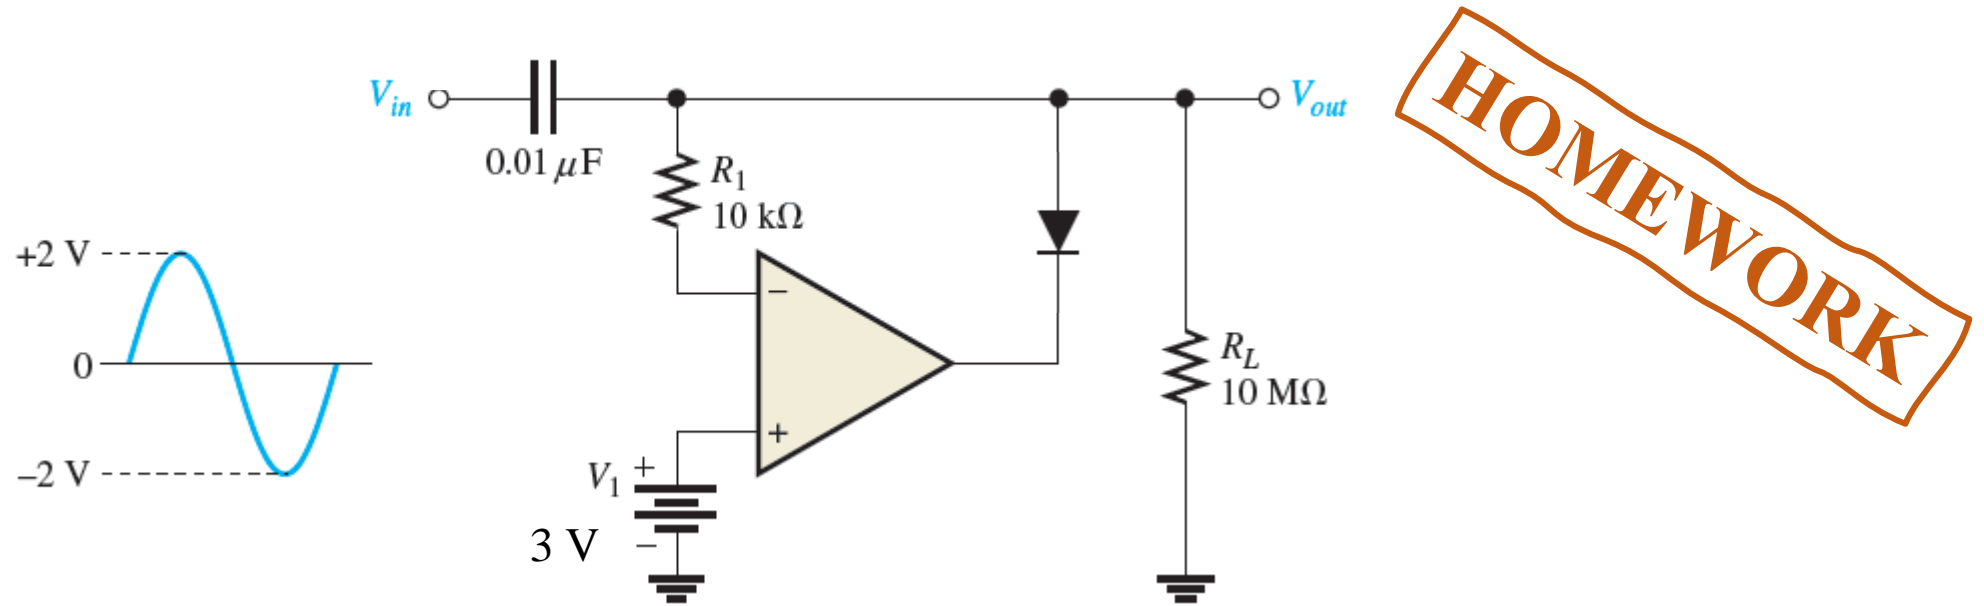

Fig. 9: Active positive clamper with nonzero reference.
- Determine the output voltage for the clamping circuit in Fig.9 for the input voltage shown.